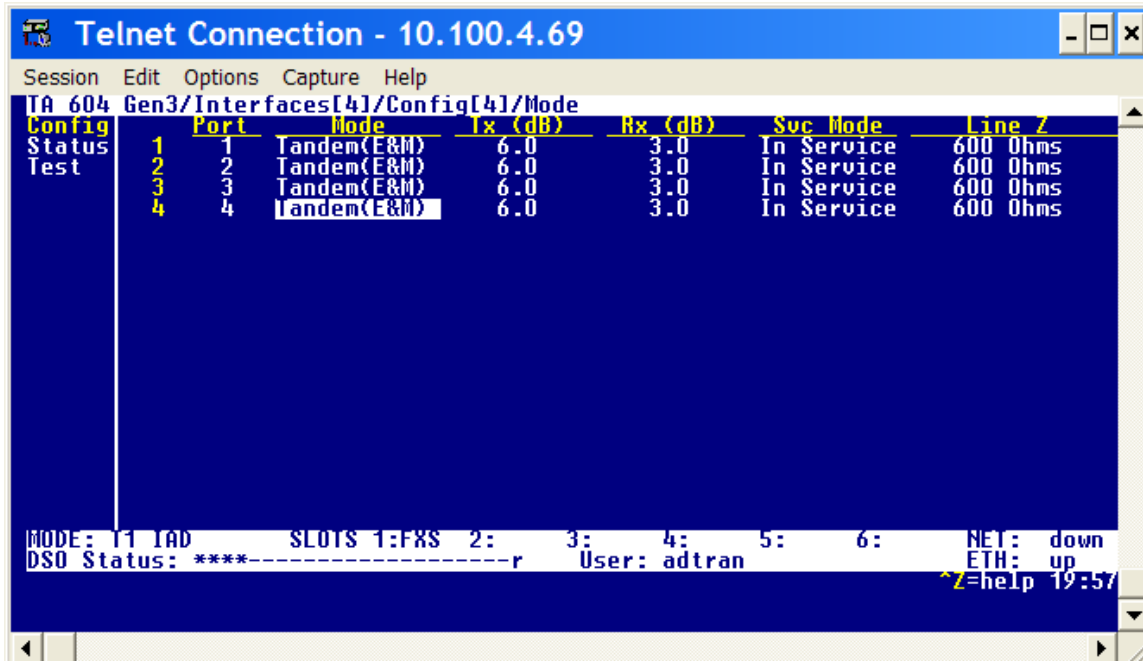

Figure 7
4. Type H to return to the Main Menu and select the Interface option from the left pane menu, next select FXS configuration, then configure the FXS ports for “Tandem E&M” mode as shown in Figure 7. In this mode, the FXS ports will provide/respond to E&M signaling from the Telco, and pass DID/DNIS digits to the attached FaxPress using standard Loop Start signaling. (Note: The Total Access will pass DID/DNIS digits after an off-hook condition is detected from the FaxPress.)